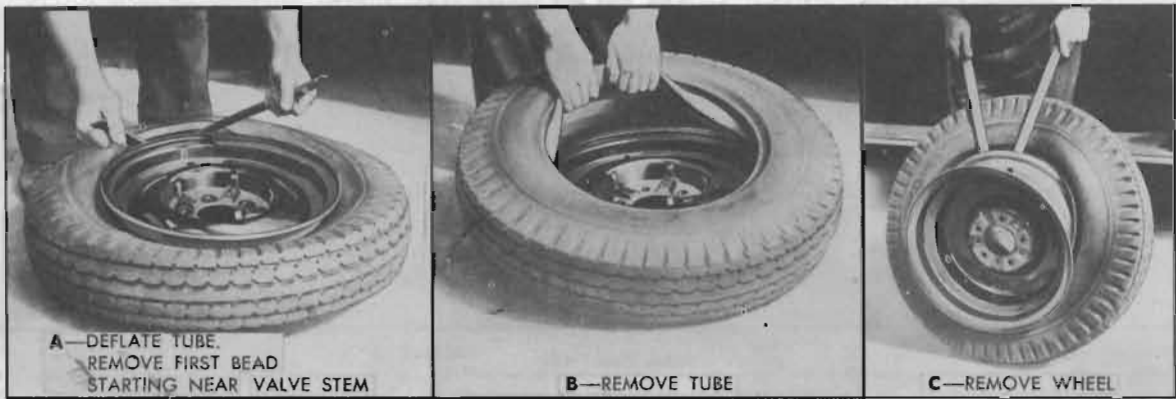

Figure 6-28—Removing Tire and Tube
1. Deflate tube completely. Loosen both beads from rim ledges, using tool if necessary. Insert two tire tools about 8 inches apart between bead and rim flange near valve stem and pry short lengths of bead over flange. See figure 6-28, view A. Then, leaving one tool in position, follow around rim with the other tool, taking small bites, to remove remainder of bead.
2. Remove inner tube. See figure 6-28, view B. Stand wheel in upright position with bead in well of rim at bottom. Insert tool between bead and rim flange at top side of wheel and pry wheel out of tire. See figure 6-28, view C.